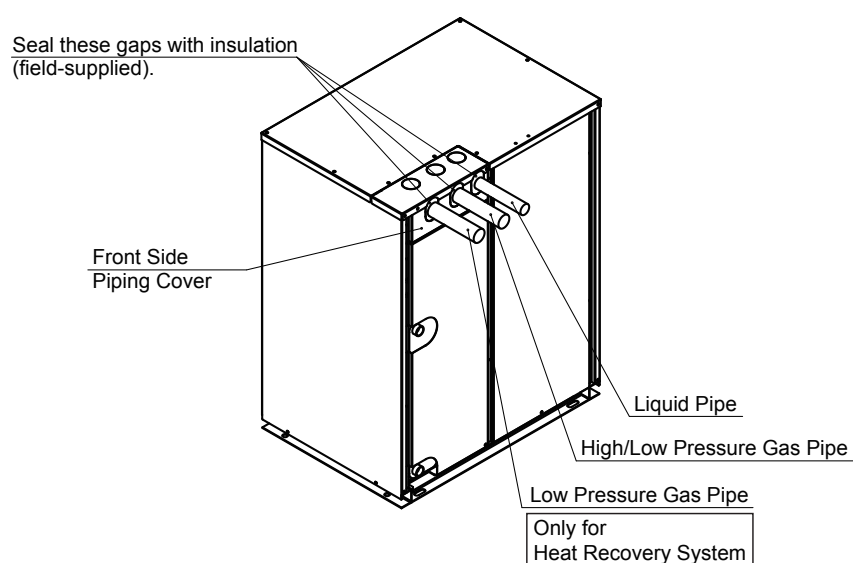

Figure 7.2
- (2) Follow the installation procedures in Section 7.2.1.
- (3) Connect the piping in accordance with Figures 7.2 and 7.3 on the following page.
- (4) Seal the gaps between the front side cover and pipes with insulation.